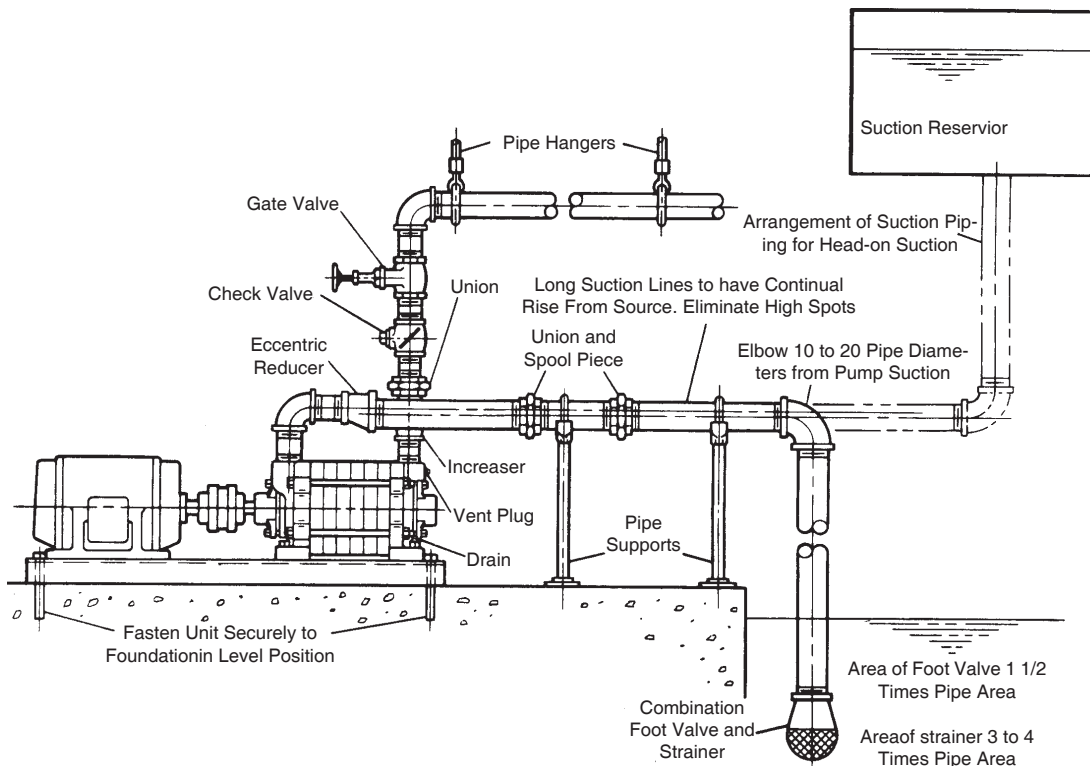

Figure 2-5
**2F Typical Installation (Refer to Figure 2-5)**
Figure 2-5 shows a typical pump installation, note the use of pipe hangers and support and the position of piping, valves, and components.